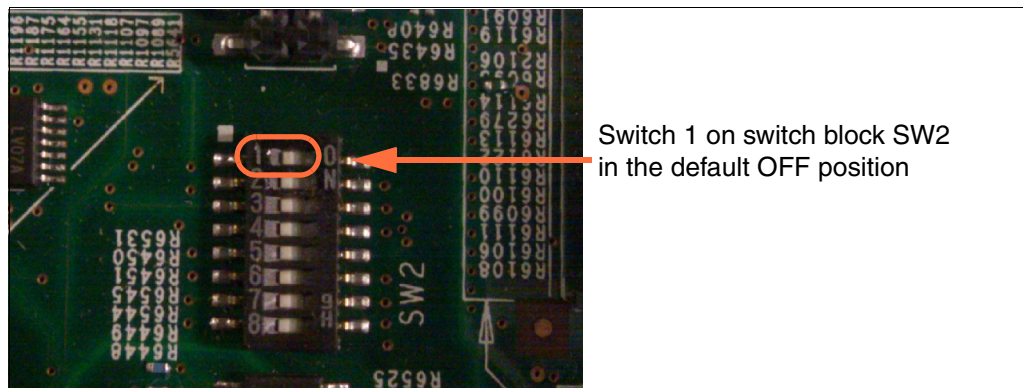

Figure 7-3 Location of switch 1 on switch block SW2
- c. The numbers on the switch block represent the OFF side of the switch. They are located on the side of the switch block that is closest to the front of the server. To clear CMOS, slide switch 1 (shown in Figure 7-3) to the ON position closest to the rear of the server.